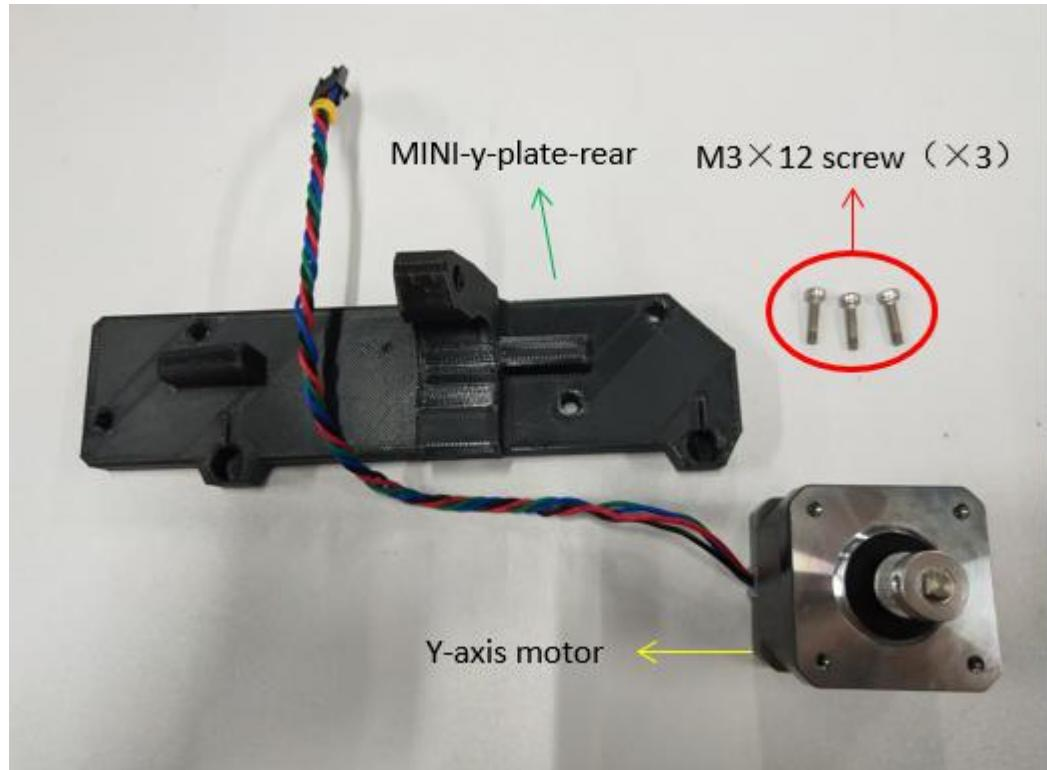

Figure 1.2.1
**Step 1-2-1:** As shown in Figure 1.2.1, prepare the materials and check whether the quantity of materials is correct, and prepare for the next installation.